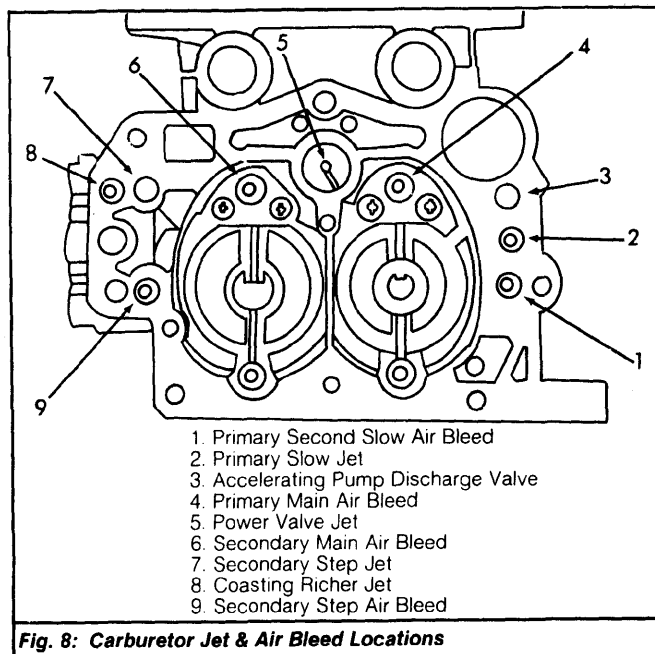

Fig. 8: Carburetor Jet & Air Bleed Locations
9) Remove 3 float chamber cover attaching screws and remove glass, float pin collar, float and float valve. Remove float valve body, float chamber, ventilation valve, accelerator pump plunger and solenoid valves. Carefully remove carburetor jets. See Fig. 8.